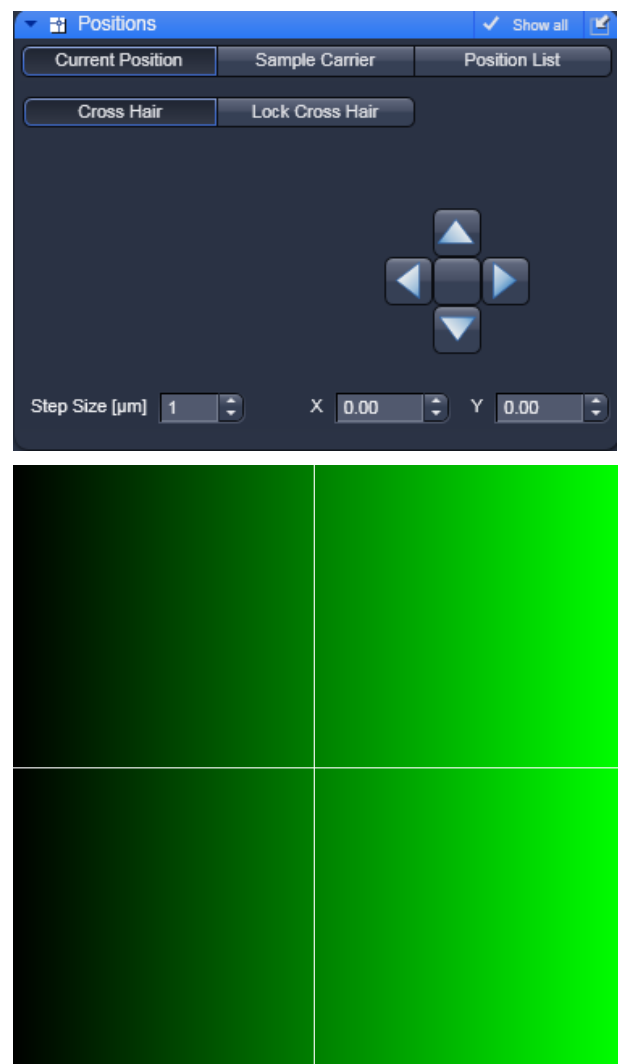

Fig. 294 Current Position display with cross hair activated (above) and image with cross hair displayed (below)
- Press the **Cross Hair** button (Fig. 294). This will display a cross hair in your scan image. Click again to remove the cross hair. Position the crosshair at the coordinates you want to take the reading. The crosshair will be positioned on the site were you click with the left mouse button. We recommend not to close the **Scan** window after setting the crosshair. Then the crosshair will be preserved within the new scan. Fix the cross hair by pressing the **Lock Cross Hair** button. This prevents the cross hair from moving by an accidental click in the image window.